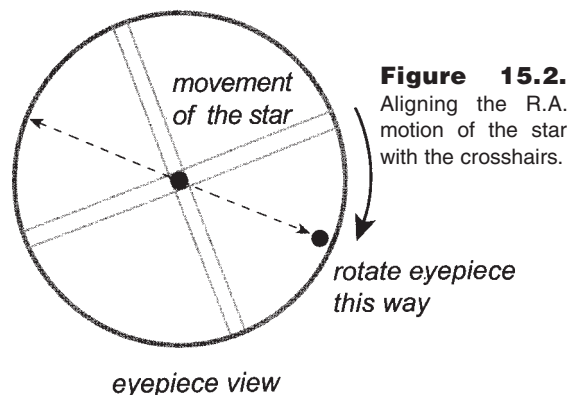

Figure 15.2. Aligning the R.A. motion of the star with the crosshairs.
4. Keep moving the telescope about the R.A. axis back and forth to keep the star within the eyepiece field of view. Rotate the eyepiece in the focuser (or diagonal) until the movement of the star becomes parallel to one of the illuminated crosshairs (Figure 15.2). This crosshair will represent R.A. movement in the course of this procedure, and the perpendicular crosshair will represent Dec. movement. Tighten the set screws to secure the eyepiece in position. Make sure the eyepiece will remain stationary while the telescope is moved.